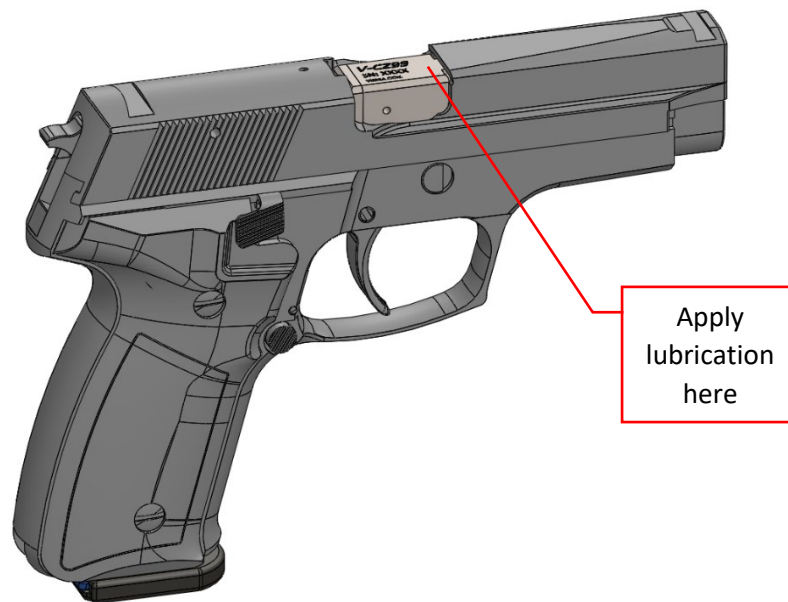

Figure 3: Lubrication of Recoil Kit thru Ejection Port
- Use a cotton swab or microfiber cloth to apply a thin layer of approved lubricant to the portion of the recoil kit that is visible thru the ejection port (Figure 3).